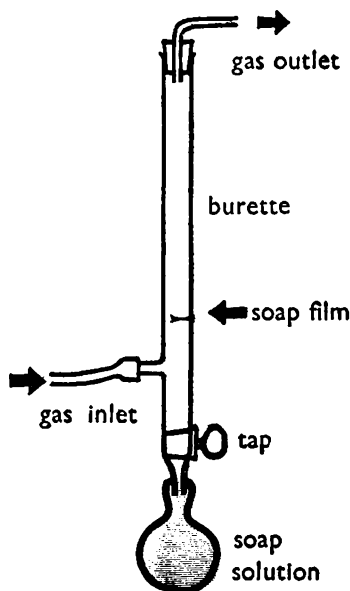

Fig. 11
from a burette as shown in Fig. 11. A soap film is blown into the tube above the gas inlet by squeezing the rubber syringe. If the burette tap is then closed and the gas turned on, the time taken for the soap film to move through (say) 50 cm^3 can be measured and the flow rate calculated. *If 50 cm^3 of gas enters the tube in 10 seconds how would you express the rate of flow? (3)*